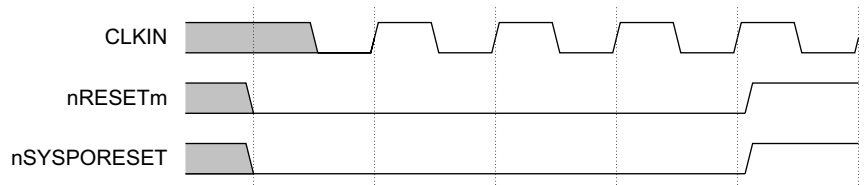

Figure 2-4 Power-on reset
- Assert **nSYSPORESET** and **nRESETm** together, holding **nRESETm** asserted for at least four **CLKIN** cycles. See Figure 2-4.